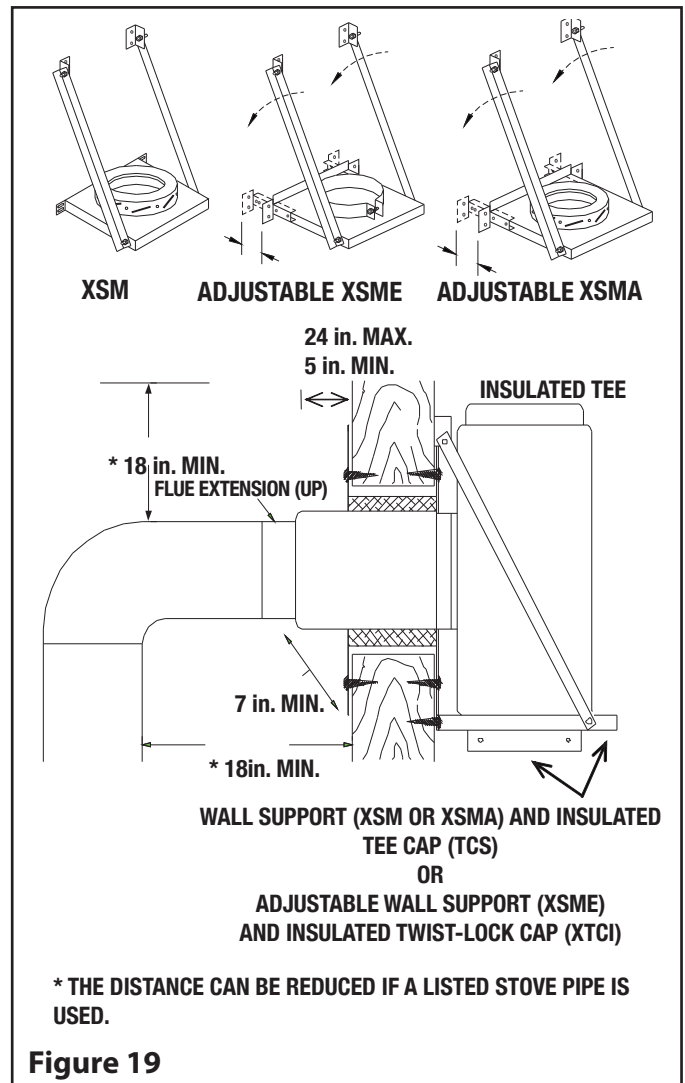

Figure 19
8. If an exterior installation is to be enclosed, (see Figure 19) allow for access to base of tee to facilitate required cleaning.
Step 3. Attach the clean-out cap to the support's (XSM or XSMA only) flue extension using the three (3) metal screws provided. Make sure that the screws have pierced through the flue extension. The cap is in the box with the insulated tee. **See Figure 19.** If an insulated tee cap is used, twist lock the tee cap to the tee (adjustable support XSME and XSO-1 only).